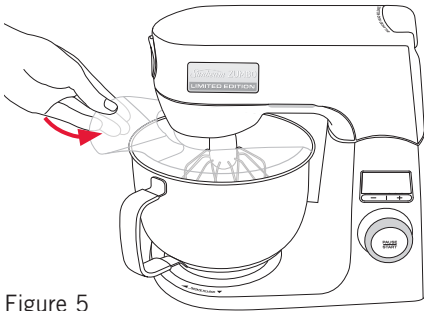

Figure 5
6. The splashguard can now be placed over the bowl if desired (Fig 5).